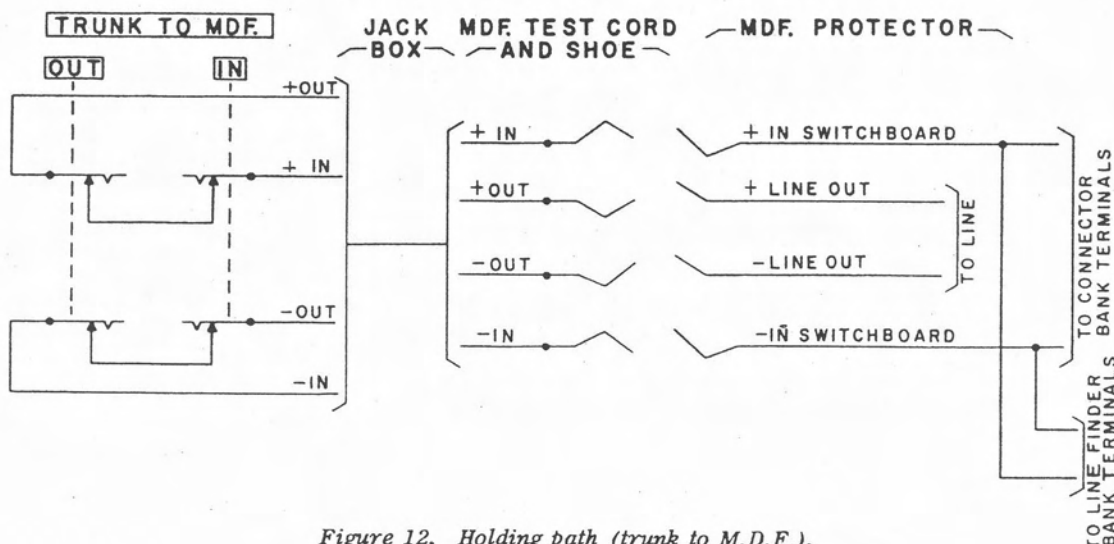

Figure 12. Holding path (trunk to M.D.F.).
4.2.6 Hold. To hold a connection (in figure 12, the subscriber's loop holds the connection) through a jackbox all keys will be restored and the OUT and IN leads will complete a loop from the M.D.F. to the test turret to hold the connection. The switch train may be held by the test attendant by operating the HOLD key. This shorts the + and - leads which completes the loop to the switch train.